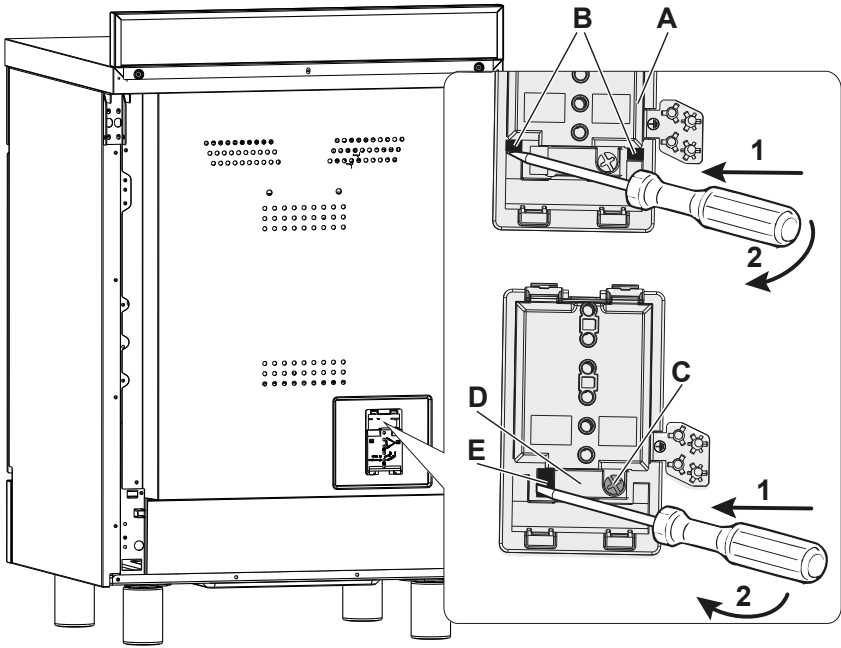

Fig. 2.2
- Unscrew the screw "C", then unhook the cable clamp "D" by inserting a screwdriver into the hook "E". Remove completely the cable clamp "D" (fig. 2.2).
- Connect the phase, neutral and earth wires to terminal board "F" according to the diagrams in fig. 2.2; the U bolts "G" (fig. 2.1) shall be used as indicated in the diagrams in fig. 2.2 (they are supplied already fitted to the terminals or inside the terminal board, behind the cover).